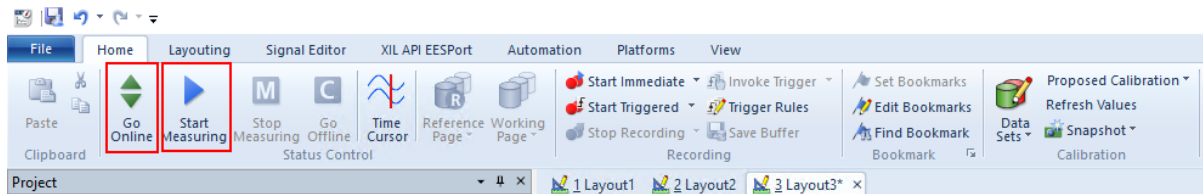
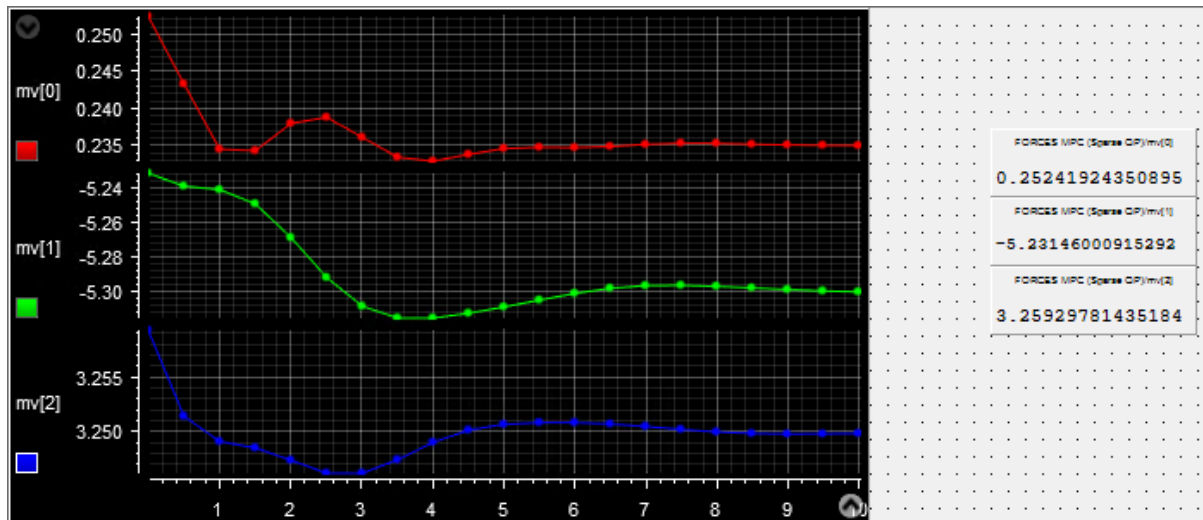

Figure 6.21: Buttons Go Online and Start Measuring to receive execution results
Figure 6.22: Plots and results from experiment on dSPACE MicroAutoBox II
- 16) Select **Go Online** and **Start Measuring** to see the results. (see Figure 6.21 and Figure 6.22).